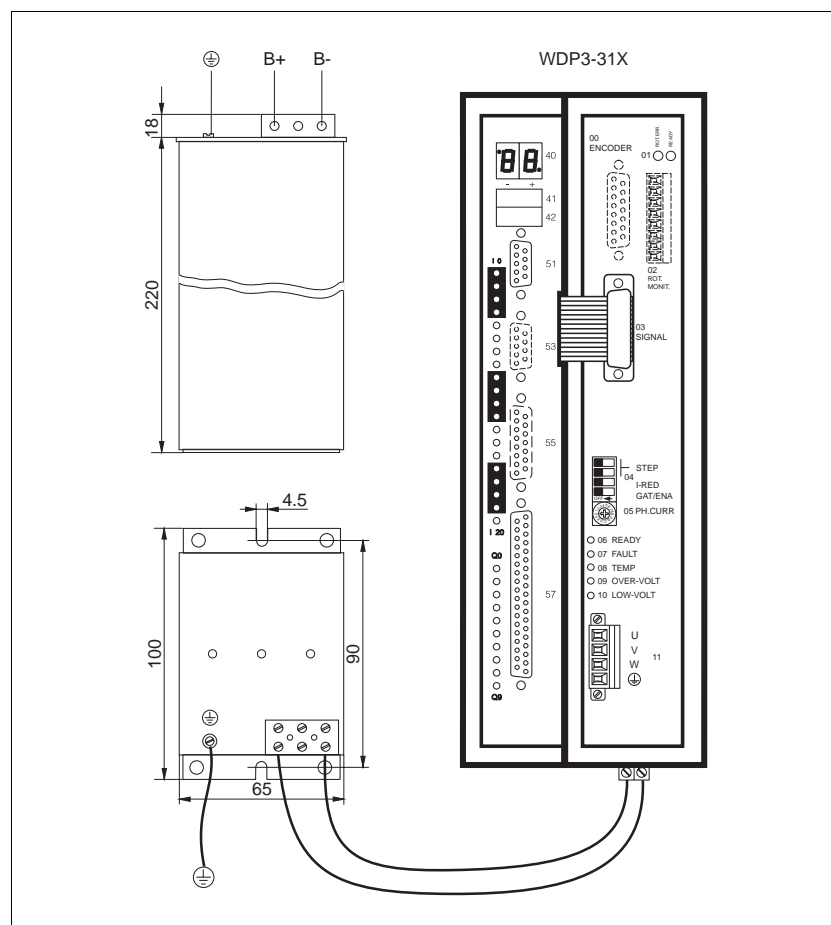

Fig. 6-9 Additional bleed resistor
- 6.2.7 Additional bleed resistor** The additional bleed resistor FZP 200 (180 ohms, 150 W) can be used for dissipating a larger amount of braking energy (fig. 6-9).